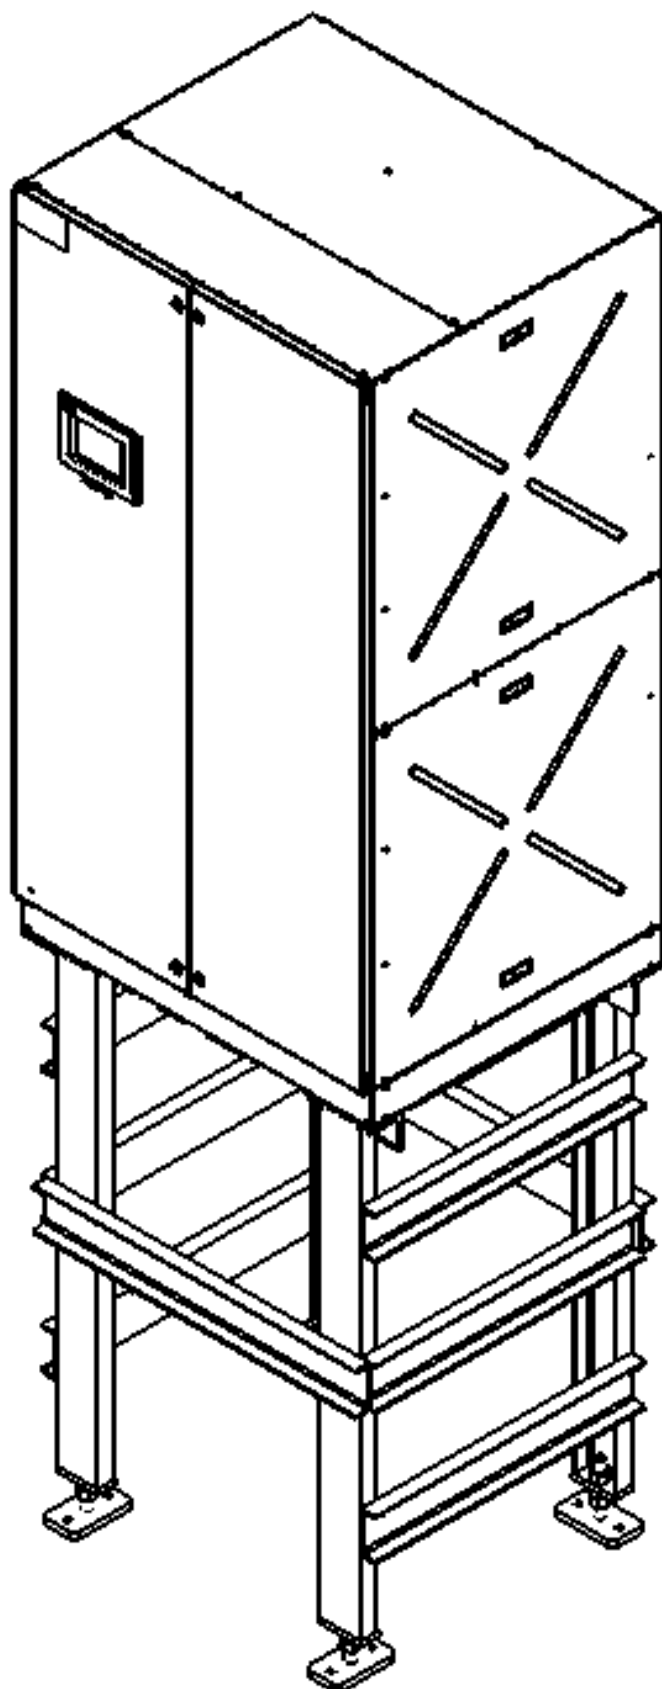

Figure 4.8.2 - Cabinet position on floor stand
- Position the cabinet onto the floor stand in the orientation shown in Figure 4.8.2.